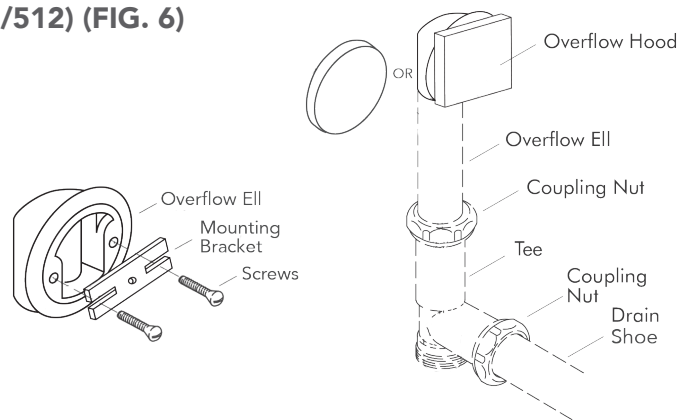

FIG. 6
15. Install overflow plate onto overflow **(513/512) (FIG. 6)**